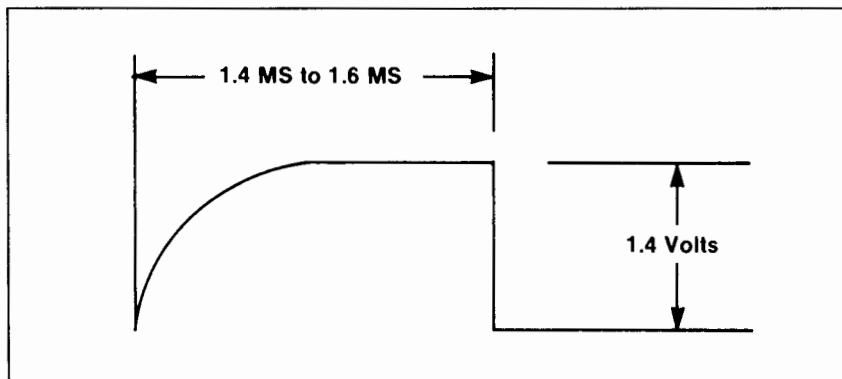

Figure 6-4. Fire Pulse Amplitude and Duration
2. If necessary, adjust trim potentiometer R26 (top blue pot on the rear edge of the Traffic Control board, in position 7) for an amplitude of 1.4 volts, as shown in Figure 6-4. Pulse duration should be 1.4 to 1.6 milliseconds, and is adjustable at trim pot R14 at the top rear edge of the CPU board (position 6).
3. Check the output pulses at the test point (TP) on each of the remaining hammer drive PCAs in positions 2,3, and 4. If the maximum amplitude varies more than 0.5 volts between any two, refer to Service Note 2619A-21 and take corrective action.